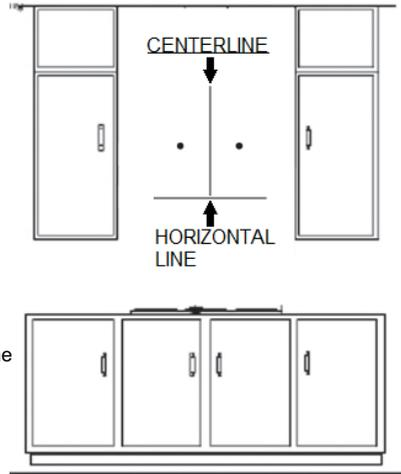

Figure 1.
1. Find the center of the wall where you are installing the hood. **NOTES:** Be sure there is sufficient bracing to hold the weight of the unit. Draw a vertical line on the supporting wall up to the ceiling, or as high as practical, at the center of the area in which the hood will be installed. *Figure 1.*
2. Draw a horizontal line at desired height (min 25" above the electric hob or 30" above the gas hob). *Figure 1.*